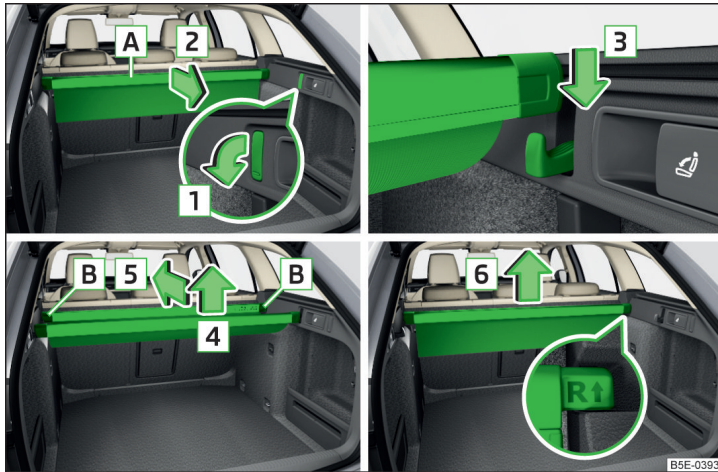

Fig. 112 Pull out / insert / push in / remove multi-function pocket
- Fold down the front hooks on both sides of the luggage compartment in the direction of arrow **1** » Fig. 112.
- Remove the rear bar from the hook in the direction of the arrow **4** » Fig. 112.
- Remove the multi-function pocket from the recesses in the direction of the arrow **6** » Fig. 112.